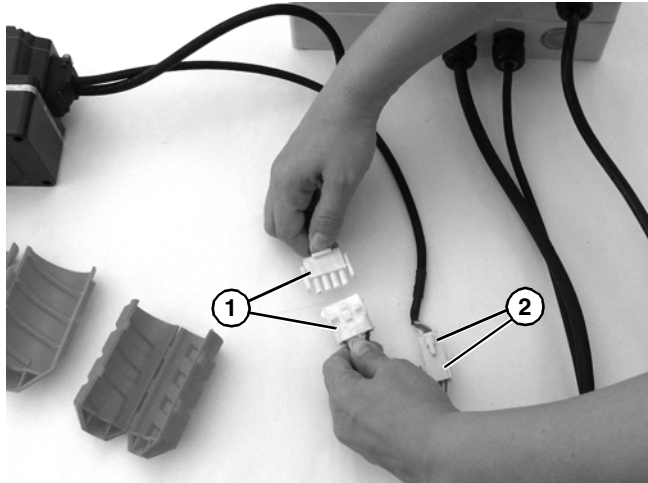

Figure 23
4. Unplug motor cord connectors (**Figure 23, item 1**) and signal cable connectors (**Figure 23, item 2**).